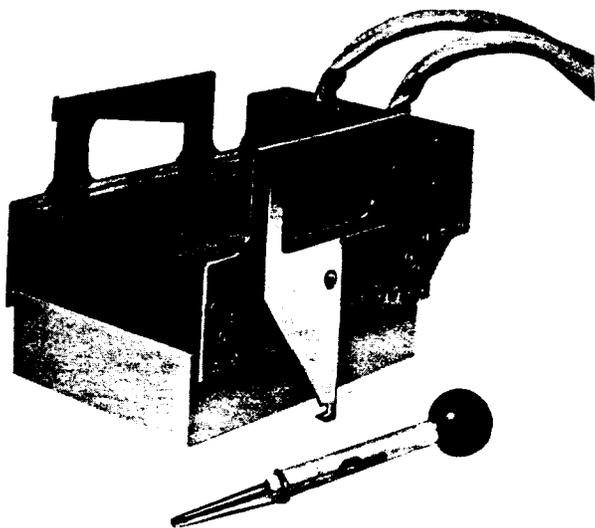

Figure 7—299B Test Adapter—For 307-Type Connectors
2.08 The 299B test adapter (Figure 7) is used to connect the 100-pair protector panel of the 307-type connector to automatic pair identification equipment. The test adapter can be mounted onto a full complement of protector units without disturbing those protector units that are in a "detent" position. The protector units may be fully inserted or in the "detent" position. It also provides the capability (using the tool shown with the 299B test adapter in Figure 7) of manually placing any protector unit in the fully inserted or "detent" position while the test adapter is mounted in place on the 307-type connector. The test adapter makes contact with the outside plant T and R conductors through the test points in the top of the 4C-type protector units. The test adapter contains 200 (100 pairs) spring-loaded contacts that are internally connected to two 50-pair, 15-foot long cables. Each cable terminates on two 25-pair KS-19162, L4 (or equivalent) connectors for attachment to automatic pair identification equipment. The four connectors are numbered 1-25, 26-50, 51-75, and 76-100 to identify the respective cable pair count. A separate pick test panel is furnished with the 299B test adapter for single or pair-at-a-time testing. The test adapter is also furnished with a KS-22396, L1 carrying case.